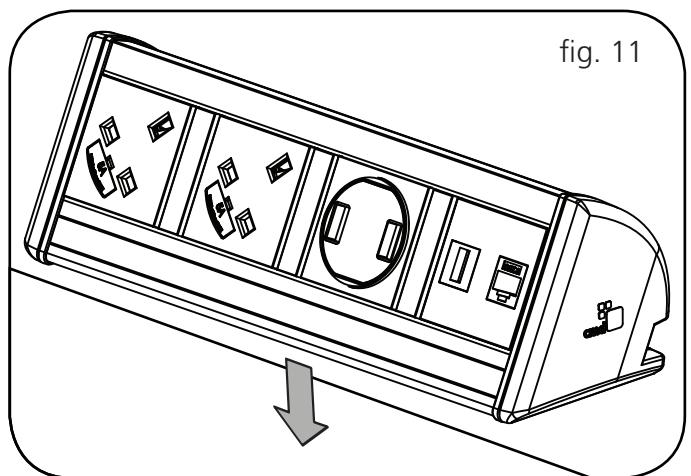

fig. 11
2. Place the unit in the desired position on the desk surface (fig. 11)